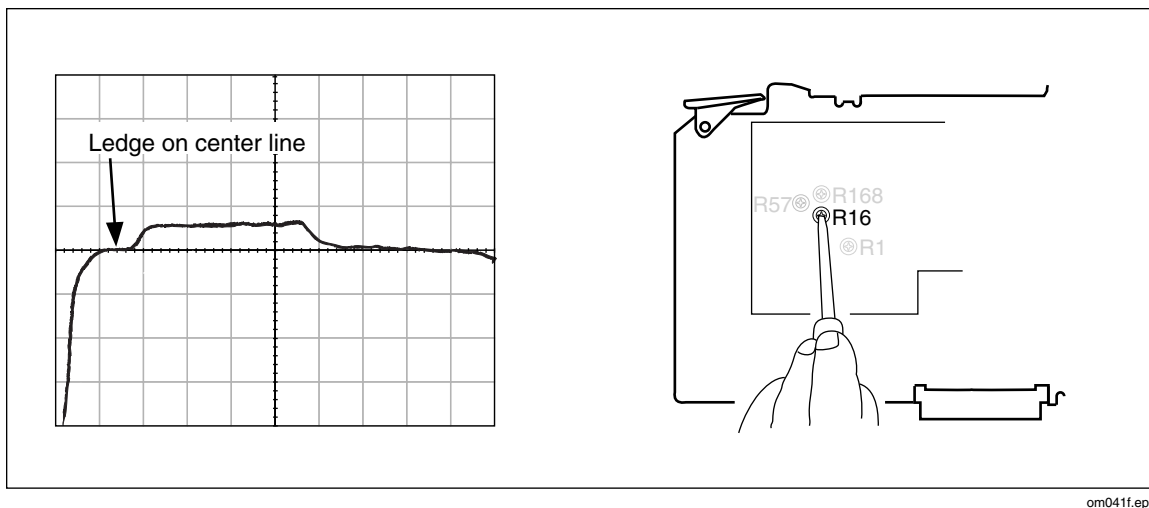

Figure 6-18. Adjusting the Ledge with R16
7. Adjust R16 until the rising edge ledge reaches the center line. Refer to Figure 6-18.